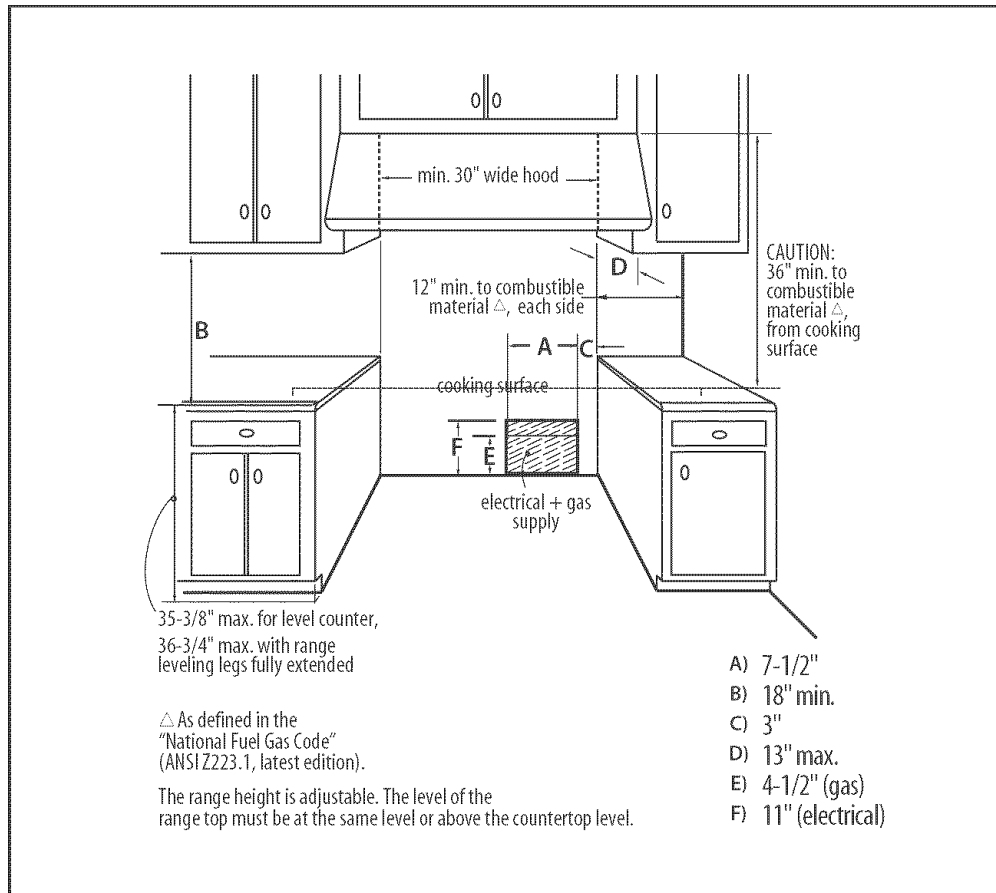
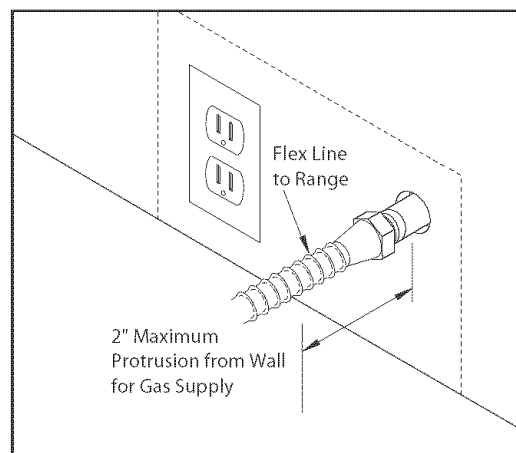

FIG. 3
FIG. 4
For best smoke elimination, the lower edge of the hood should be installed a minimum of 30" to a maximum of 36" above the range cooking surface (See Fig. 3, page 5). If the hood contains any combustible materials (i.e. a wood covering) it must be a minimum of 36" above the cooking surface.
1. The range is a free standing unit. If the unit is to be placed adjacent to cabinets, the clearances shown in Fig. 3 are required. The same clearances apply to island installations .
3. The gas and electrical supply should be within the zones shown in Fig. 3 & Fig. 4, page 5.